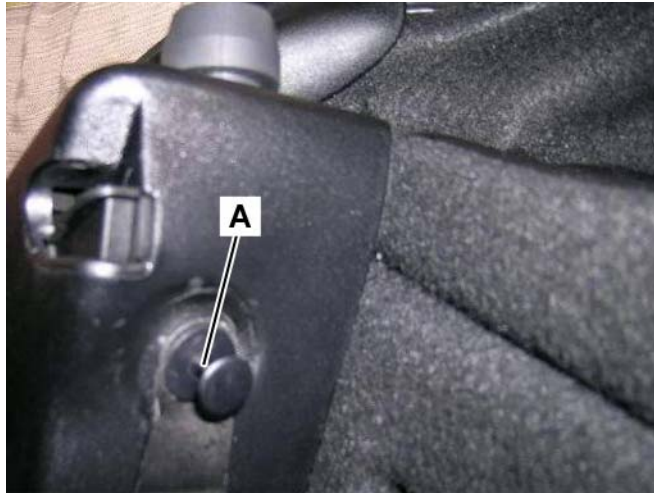

Figure 19
1. Remove the expanding rivet from the back side of the left trunk area (A, Figure 19).